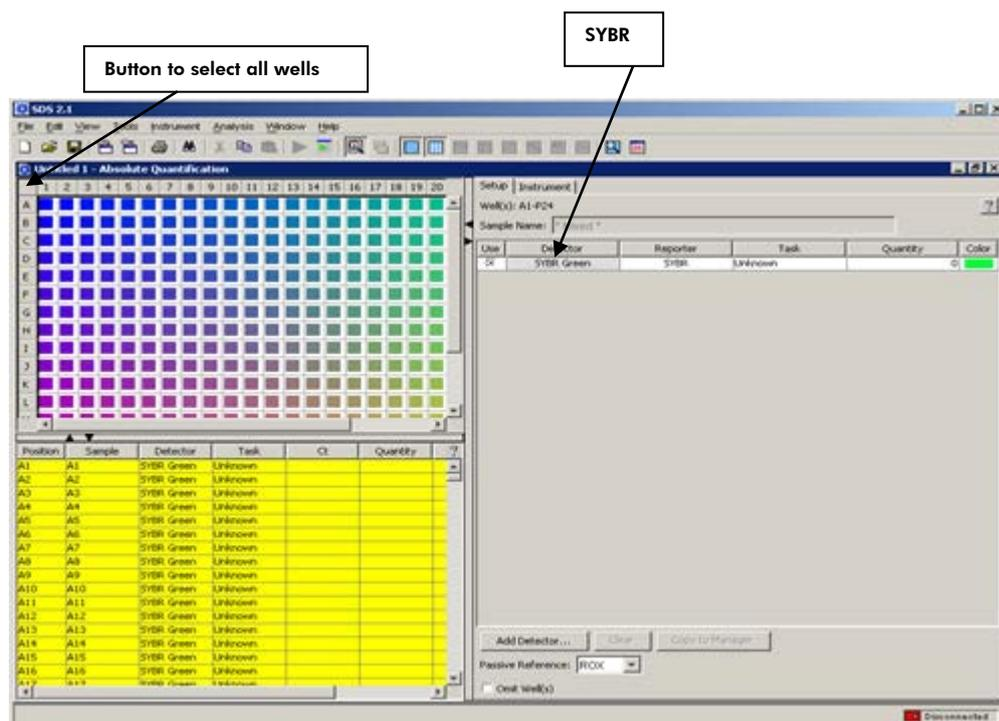

Figure 4. Plate setup — selecting sample.
- To set up a sample plate (See Figure 4), click the square button in the upper left corner of the full plate layout panel (between the letter “A” and “1”) to select all wells. Once selected, the lower